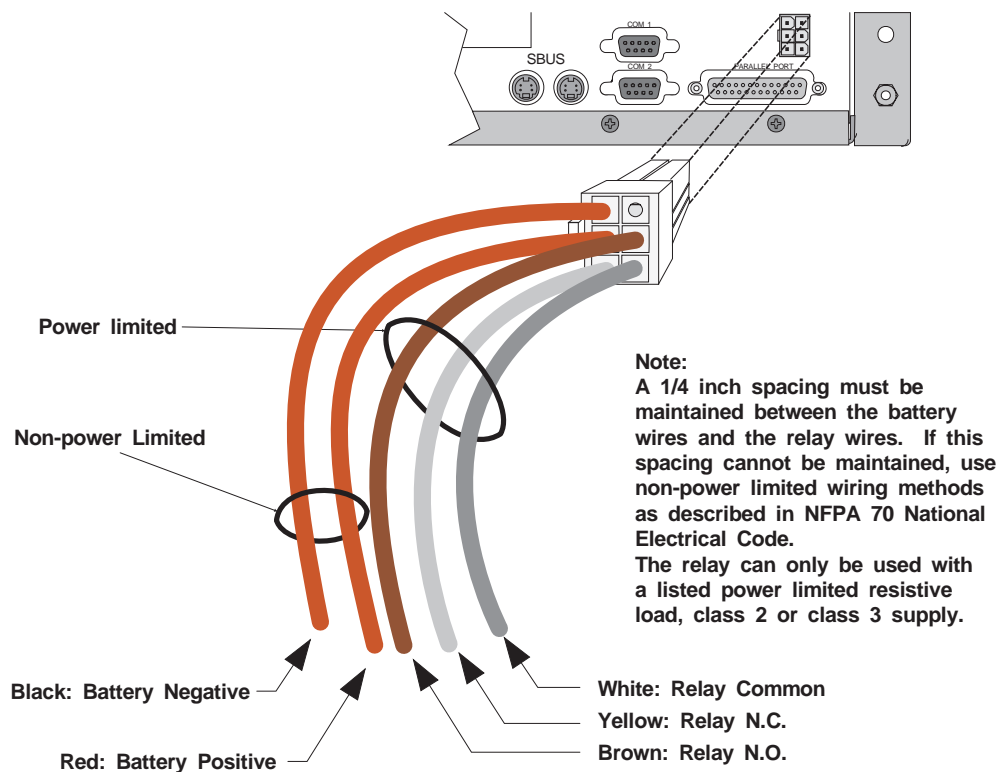

Figure 3-10 CS-5000 Remote Alert Output/Backup Battery Connection
1. Plug the battery/relay wiring harness onto the connector on the back of the CS-5000 receiver (Figure 3-10).